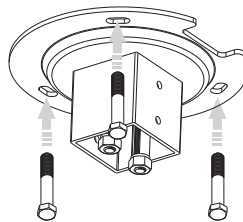
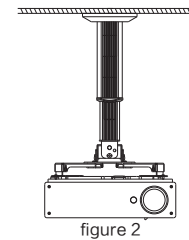
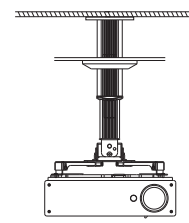

figure 1
figure 2
figure 3
- ① Install the fixation on the ceiling (screws of accessory ①) as figure 1. GPCM-D can be installed to the concrete-roof with ceiling or without ceiling, such as figure 2 and figure 3.